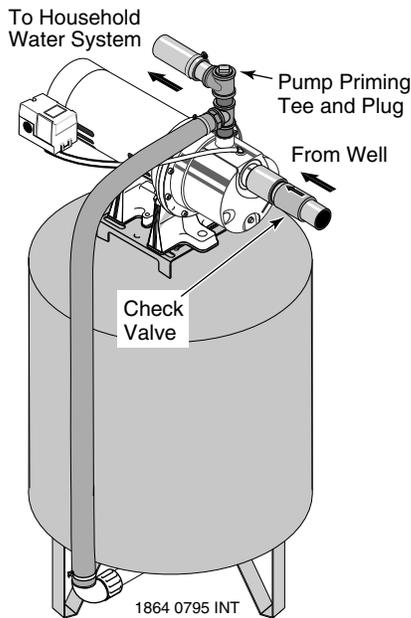

Figure 4: Pre-charged Tank Connections
PRE-CHARGE TANK CONNECTION (Figure 4)
1. Install two tees in the pump discharge port (see Figure 4). The pipe size must be at least as large as the discharge port.